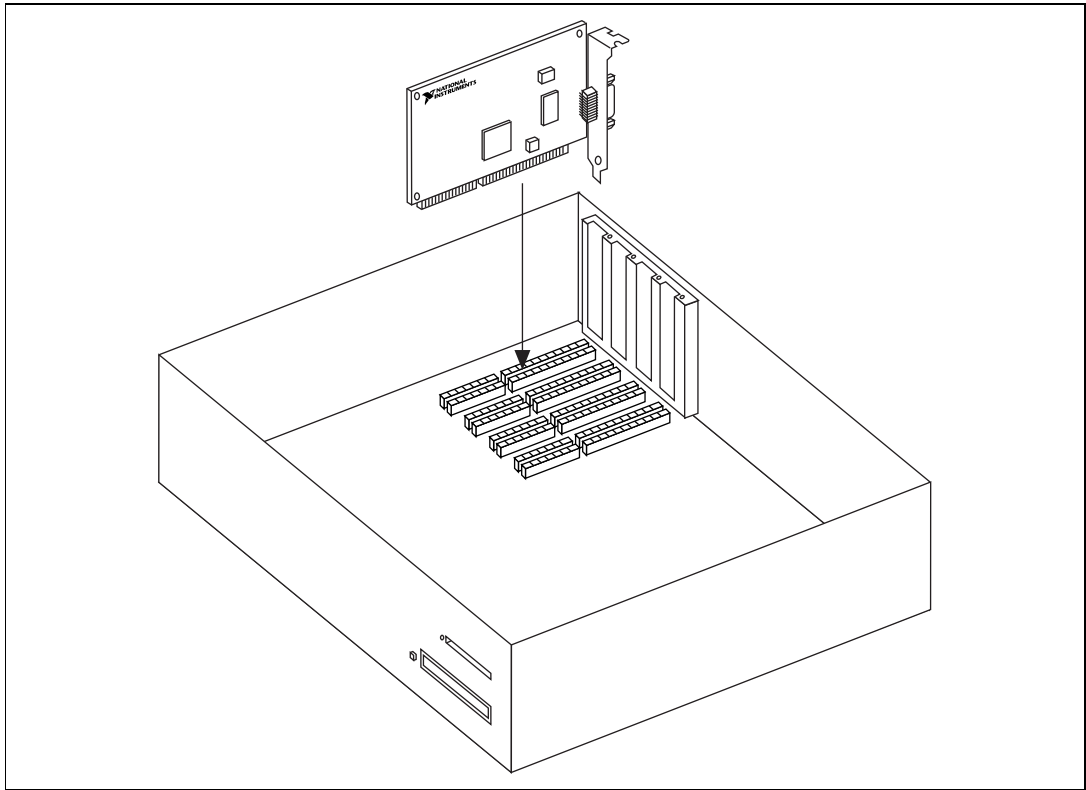

Figure 2-12. Installing the AT-GPIB/TNT
5. Insert the AT-GPIB/TNT into the slot with the GPIB connector sticking out of the opening on the back panel, as shown in Figure 2-12. It might be a tight fit, but do not force the board into place.